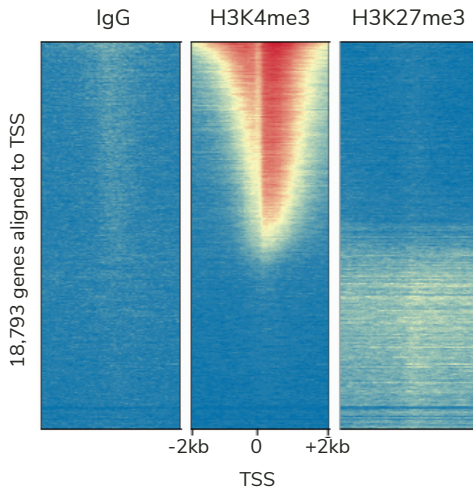

FIGURE 8
- Positive (H3K4me3) and negative (IgG) antibody controls produce the expected distribution and peak structure in the species tested. Results for experimental replicates should be highly reproducible. Representative examples for human K562 cells are shown (Figures 8 and 9).